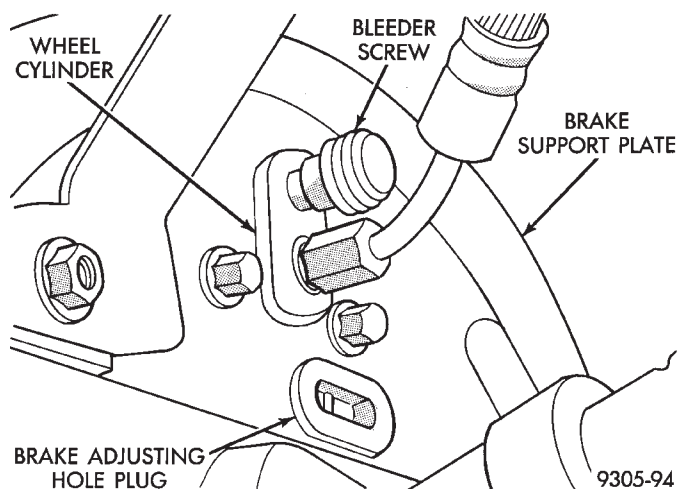

Fig. 175 Brake Adjusting Hole Plug
(1) Raise the vehicle so all wheels are free to turn. See Hoisting in the Lubrication And Maintenance Section, of this service manual for the required lifting procedure.
(2) Remove brake adjusting hole plug (Fig. 175), from the rear brake shoe support plate.
(6) Repeat above adjustment at the other rear wheel. Install adjusting hole rubber plugs (Fig. 175) in rear brake supports.